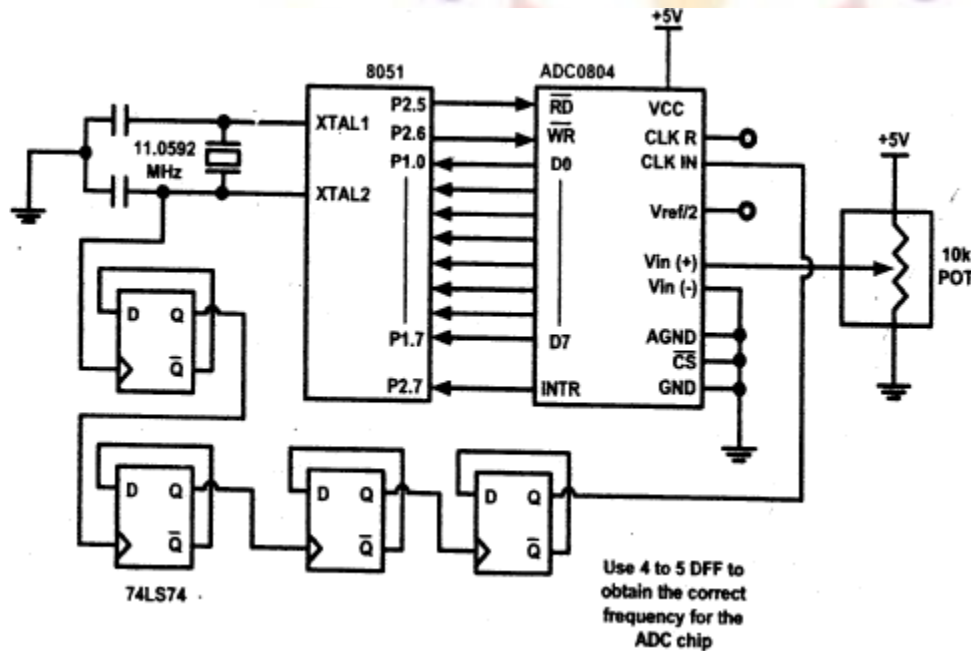

Figure 5.8 8051 Connection to ADC0804 with Clock from XTAL2 of the 8051
- In Figure 5.8, notice that the clock in for the ADC804 is coming from the crystal of the microcontroller.